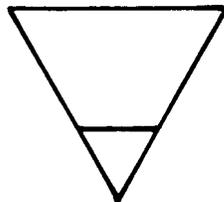

Fig. 10—Off-Line Storage Symbol
2.10 *The off-line storage symbol* (Fig. 10) represents the function of storing information off-line, regardless of the medium on which the information is recorded.